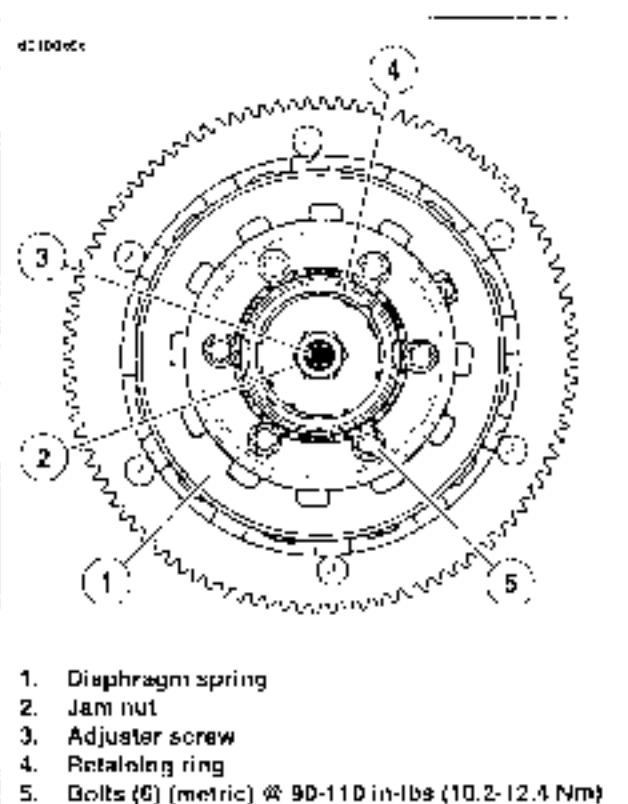

Figure 6-24. Assembled Clutch
12. See Figure 6-24. Seal diaphragm spring (1) in recess of pressure plate with the concave side down.
14. Install six bolts (5) (metric) to secure diaphragm spring retainer to clutch hub. Alternately tighten bolts to 90-110 in-lbs (10.2-12.4 Nm).